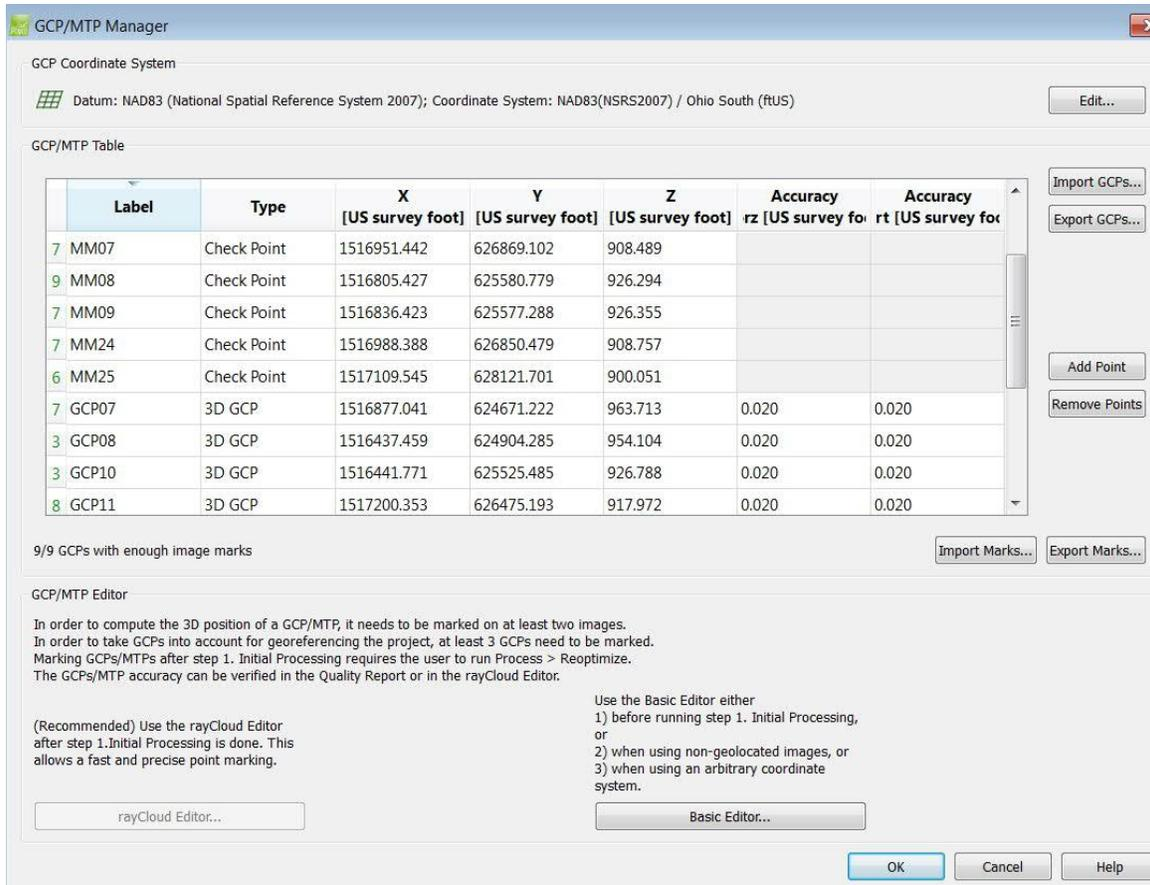

Figure 3 Assigning point type
- c. Change the type of the 8 check-points type from “3D GCP” to “check point”, see Figure 3.